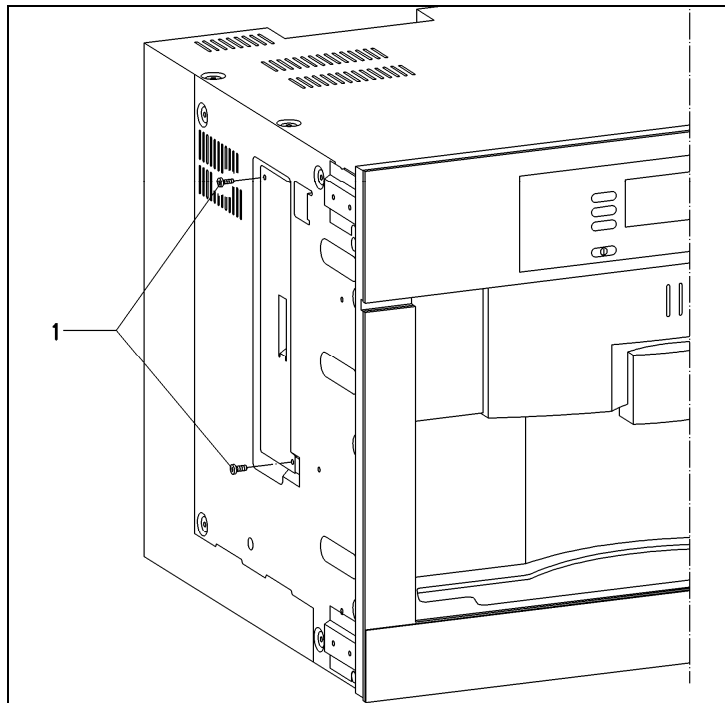

Figure 5-18: Support Plate Removal
1. Remove the screws securing the support plate (Figure 5-18, Item 1).